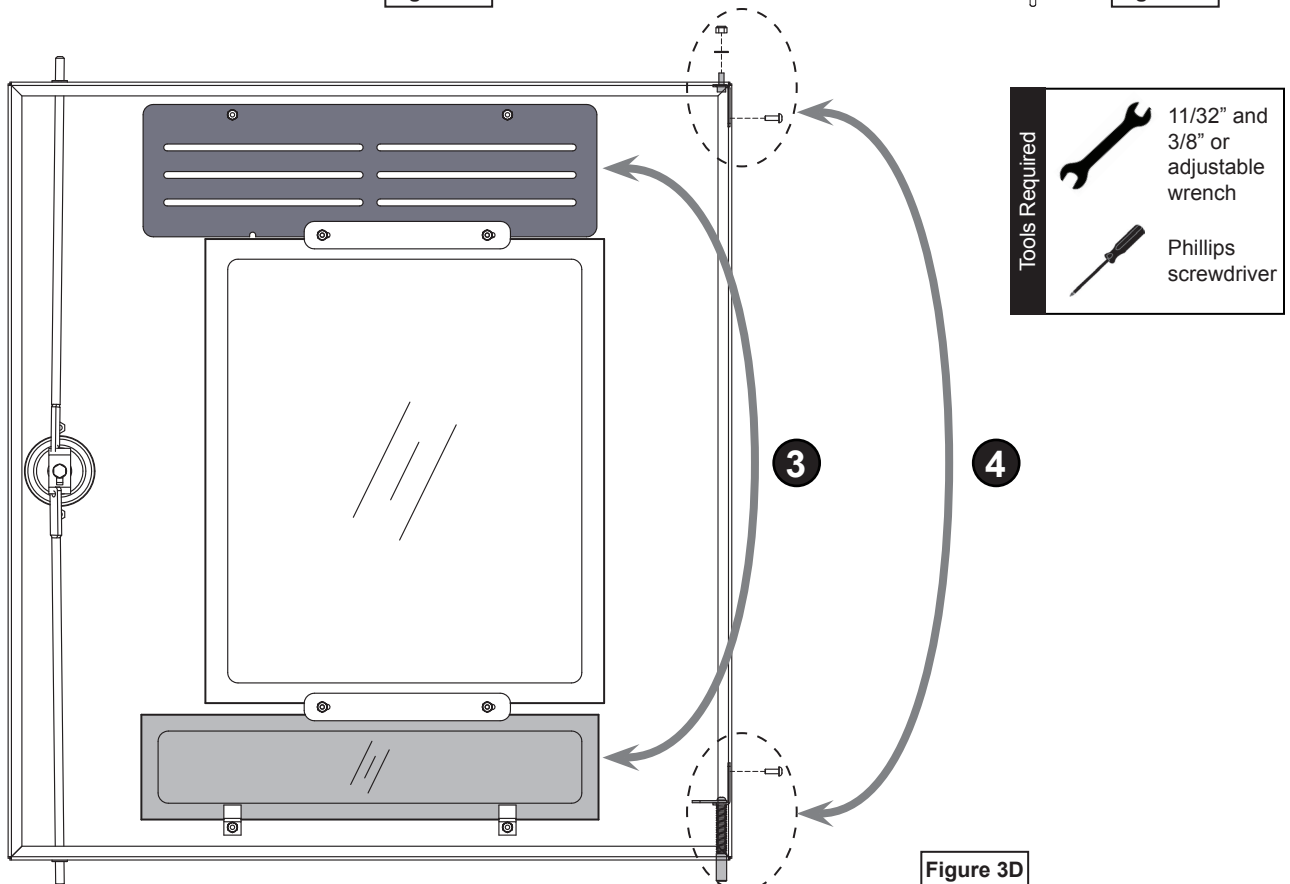

Figure 3D
3. The vented panel should be located on the bottom of the door. Switch the lower vented metal panel with the upper acrylic panel (requires removing or loosening 8-32 nuts.) **Figure 3D.**